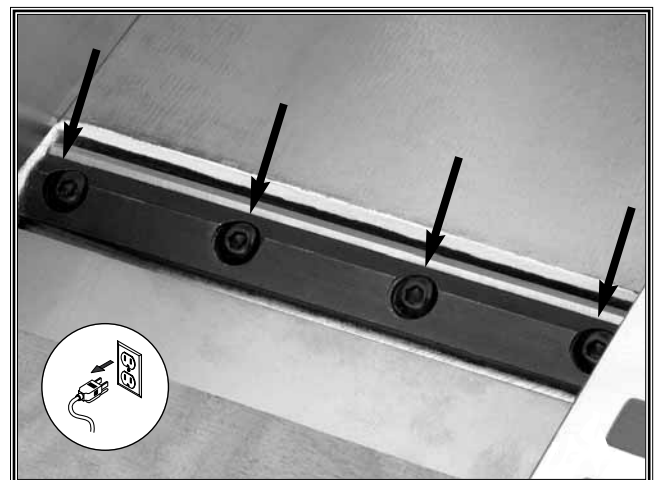

Figure 27. Blade clamp screws.
6. Loosen the four blade clamp screws that secure the blade in the cutterhead (Figure 27).